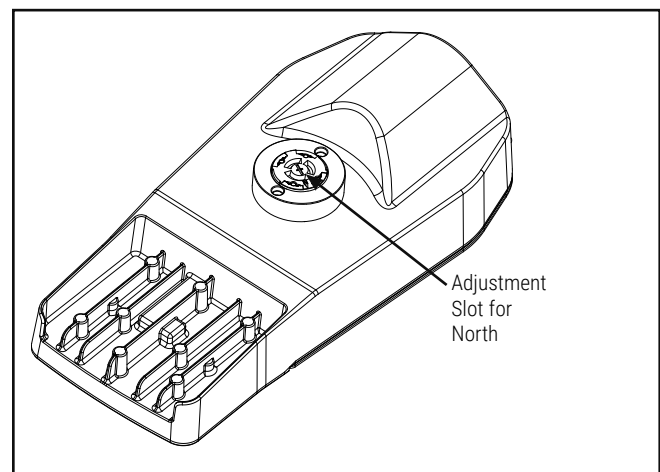

Figure 8.
3. For round poles only - Install round plate adapter with round side facing pole (Figure 8.). Align holes top and bottom.
2. For round poles only - Install round plate adapter with round side facing pole (Figure 8). Align holes top and bottom.